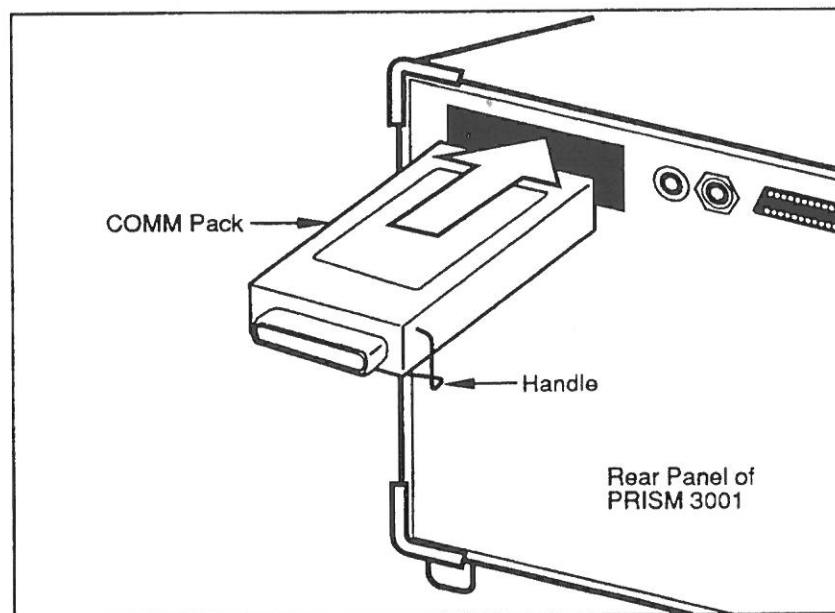

Figure 3. Installing a 1200C01 RS-232C COMM Pack in a PRISM 3002 Logic Analyzer or 2510 TestLab. Do not install or remove a COMM Pack while dc power is on.
- If you have a PRISM 3002 or a 2510 TestLab, insert the COMM Pack into the port marked 1200CXX COMM PACK PORT located on the rear of the instrument, as shown in Figure 3.